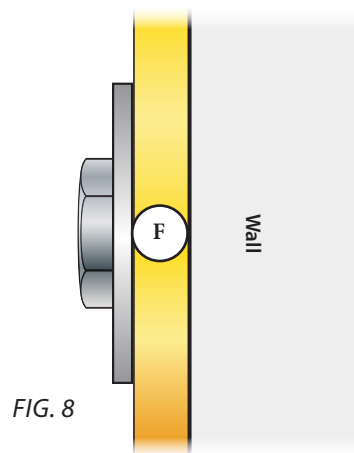

FIG. 8
Tighten these four fasteners to secure the Wall Bracket (F) to the wall [FIG. 8].